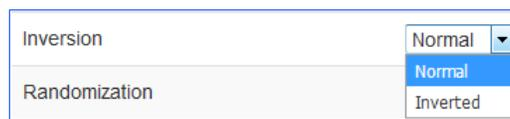

Figure 104: Data Generator, Inversion Drop Down Menu
- Inversion – Set to Normal or Inverted, as shown in Figure 104; when Inverted the data stream is inverted; useful for patterns that are defined as inverted by certain standards, or to compensate for an inversion elsewhere in the system